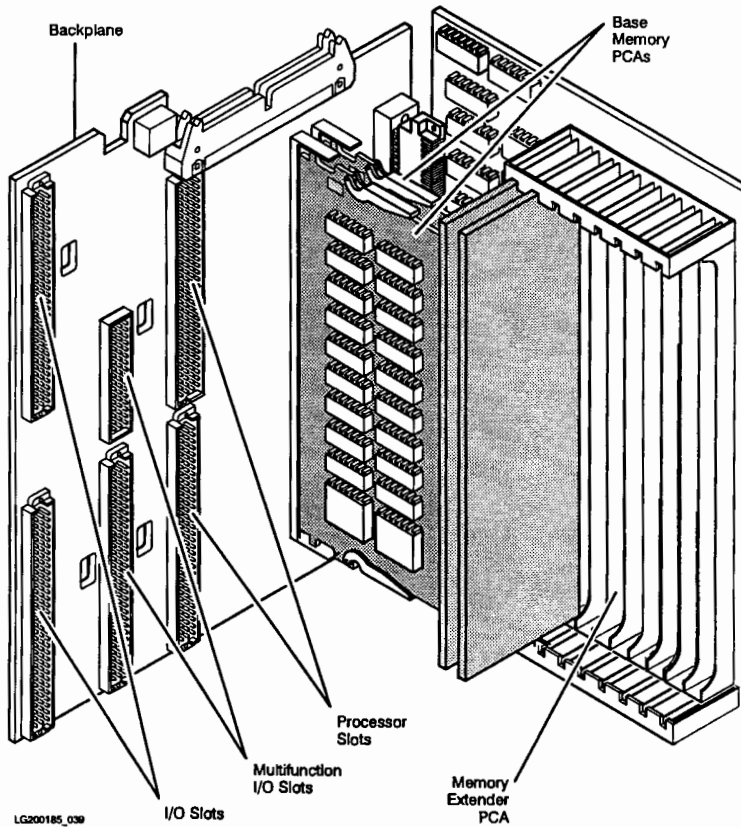

Figure 8-28. Standard Memory Extender and Memory PCA Removal
1. Figure 8-28 shows Memory PCAs on the standard backplane and a partially populated Memory Extender.